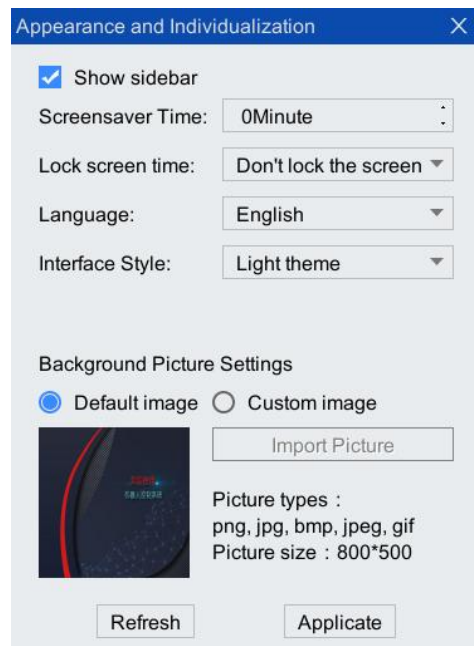

Figure 8-29 "Appearance and Individualization" setting interface
- Step1. On the main interface of the teach pendant, click "System > Appearance and Personalization" option to enter the "Appearance and Personalization" setting interface as shown in Figure 8-29, screen saver time, lock screen time, language, The interface style and background picture can be set here (see Table 8-7 for each item description).